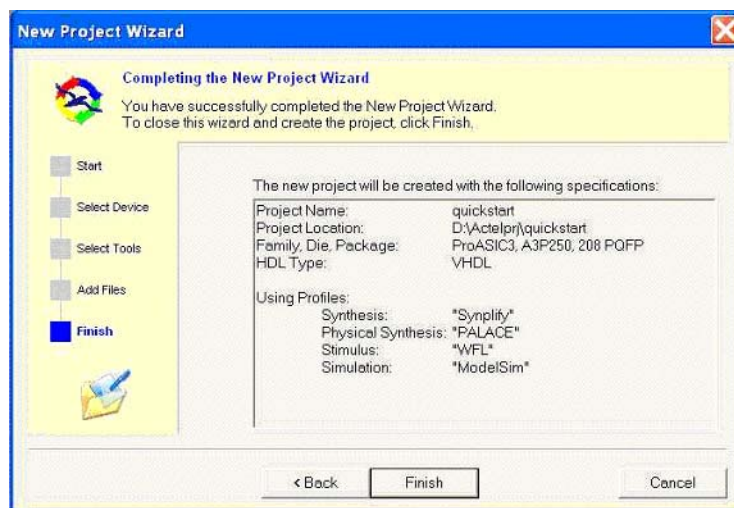

Figure 7-7 • Summary in New Project Wizard
14. Review your project information. Click **Finish** to close the Wizard and create your new project (Figure 7-7). Click **Back** to return to any step of the Wizard and correct information in your project.